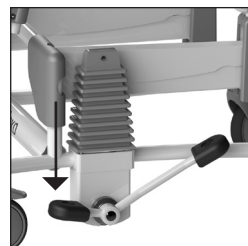

Figure 15 Moving downwards.
- The chair component is moved downwards by depressing the short part of the foot pedal (See figure 15).